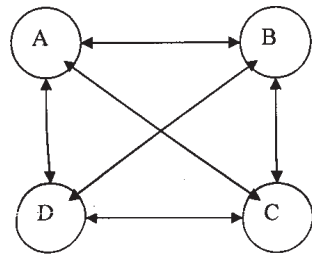

Fig Q6(b)
- b) Consider the directed graph and edge length matrix as shown in fig Q6(b). Find the optimal tour of this graph using dynamic programming approach. Show all the steps involved in computing the same.